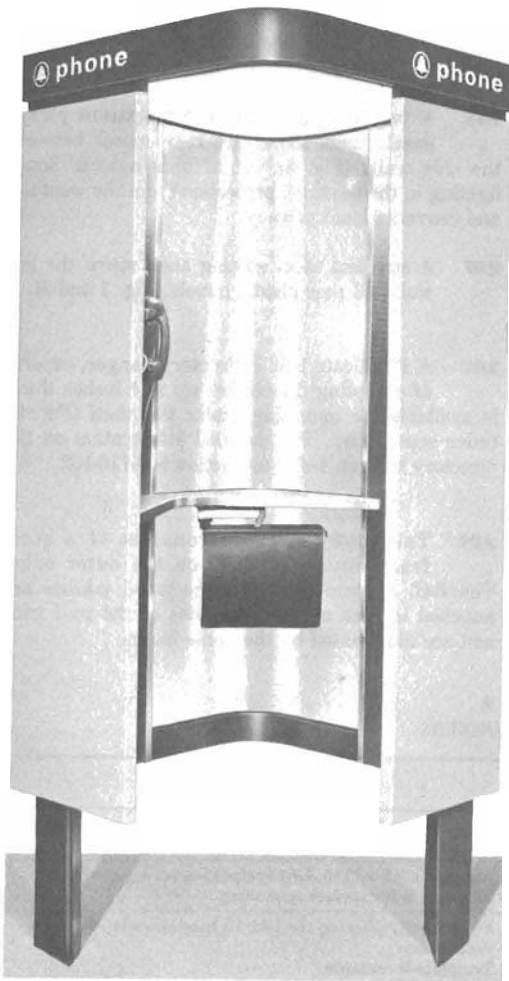

Fig. 1—KS-20255, List 1 Telephone Kiosk
**1.02** The telephone kiosk (Fig. 1 and 2) is an outdoor diamond shaped steel and plastic, doorless phone booth designed for single installation stand-up service. The mounting surface serves as the floor.
**2.07** A stainless steel writing shelf spans the left wall and rear plastic panels (Fig. 1 and 2).